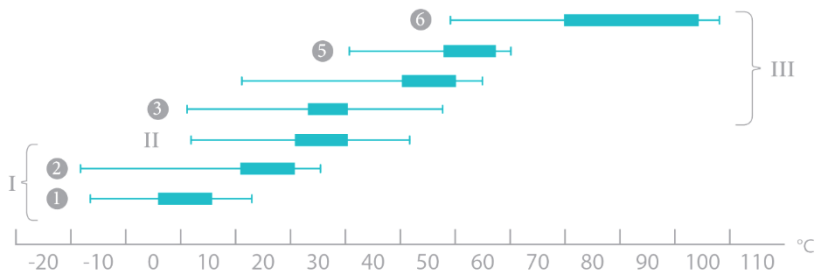

Figure 4. Temperature borders and optimal growth zones of prokaryotes and their classification.
- 8.1 **Temperature distribution specifics (psychrophiles, mesophiles, thermophiles).** The optimal growth temperatures of microorganisms are divided in three principal groups (see fig. 4):
- Psychrophiles (I) – obligate (1) and facultative (2);
- Mesophiles (II);
- Thermophiles (III) – thermotolerant (3), facultative (4), obligate (5) and extremophile (6).